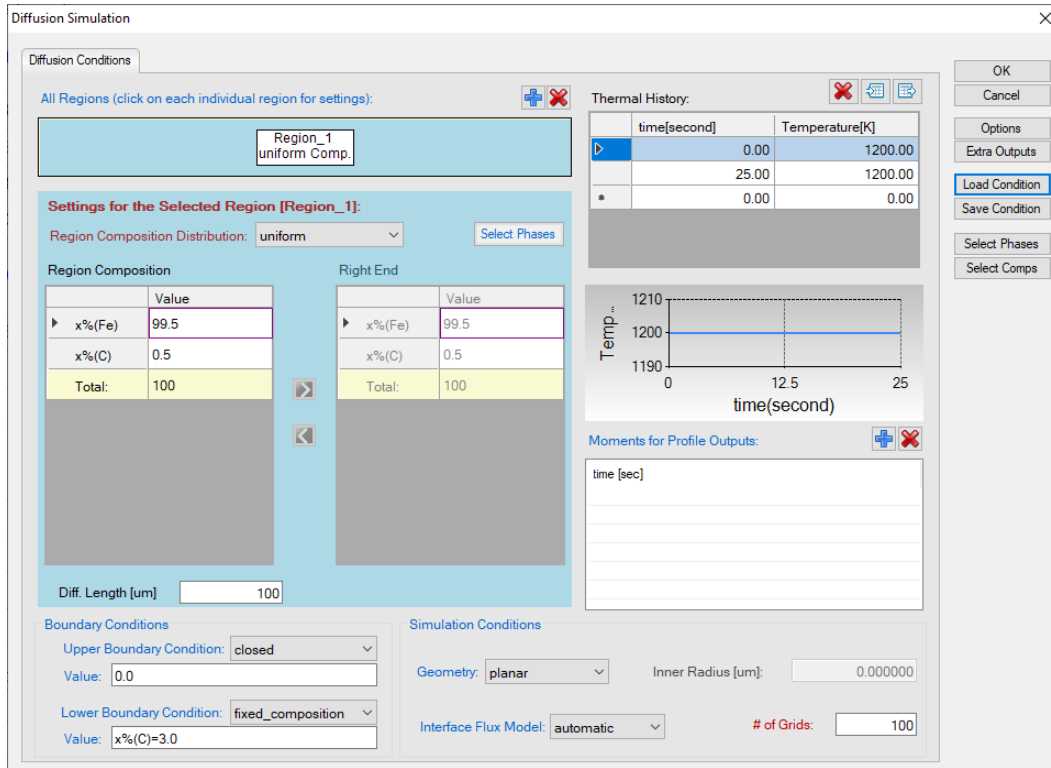

Figure 4.6.1: Setting of the simulation condition
- Click on "PanDiffusion->Diffusion Simulation" and set up the calculation condition as shown in Figure 4.6.1. First click the red "X" above the Regions setting to delete Region_2 and leave one Region only. Click on Region_1, set the composition as 0.5C-99.5Fe (at%), the Diff. Length as 100 um, and the # of Grids as 100.
- In the setting shown in Figure 4.6.1, composition profiles at the initial and final stages will be outputted. Click OK to perform calculations.